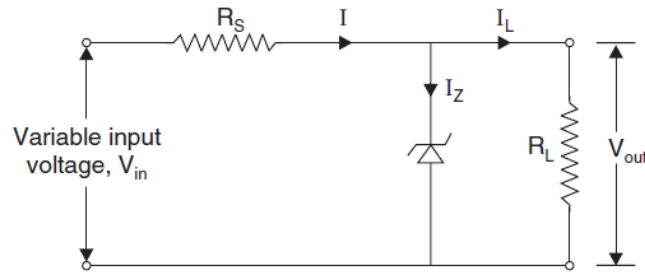

Fig. 24
**Example 4.** Determine the current flowing through the Zener diode for the circuit shown in Fig. 24, if  $R_L = 4000 \Omega$ , input voltage is 50 volts,  $R_S = 1800 \Omega$  and output voltage is 32 volts.
**Example 5.** Determine the maximum and minimum values of Zener current if in the circuit shown in Fig. 24 the load resistance,  $R_L = 4000 \Omega$ , series resistance =  $8000 \Omega$ , output voltage = 32 V and source voltage varies between 100 V and 128 V.